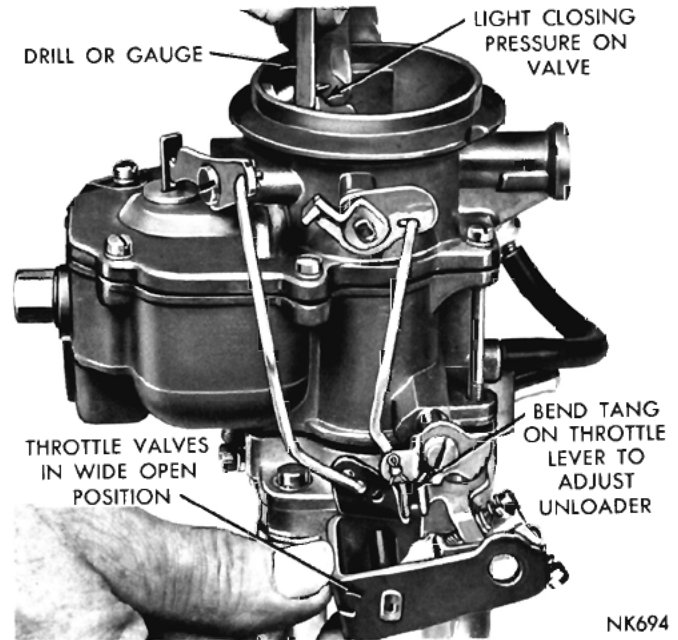

Fig. 17—Measuring the Choke Unloader Setting
(1) Hold the throttle valves in the wide open position. Insert Tool T109-31 or 1/4" drill shank between the upper edge of the choke valve and the inner wall of the air horn, as shown in (Fig. 17).
(2) If no drag is felt, or if too much drag is apparent, bend the unloader tang on the throttle lever, until correct clearance has been obtained.